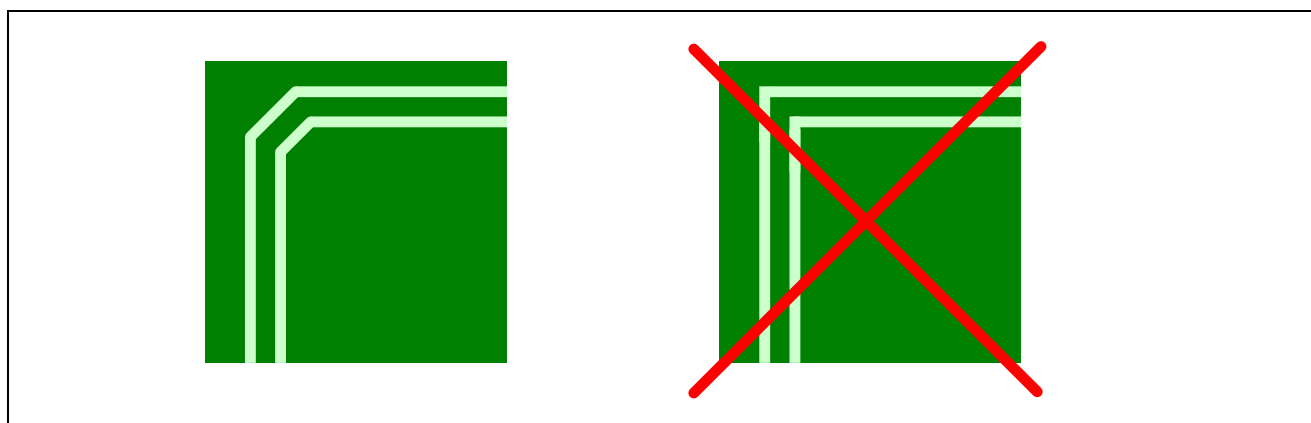

Figure 7.4 Wiring Example of the Differential Signal Transmission Line (1)
- Lines should bend with 135 degree angle or more. (Figure 7.4)